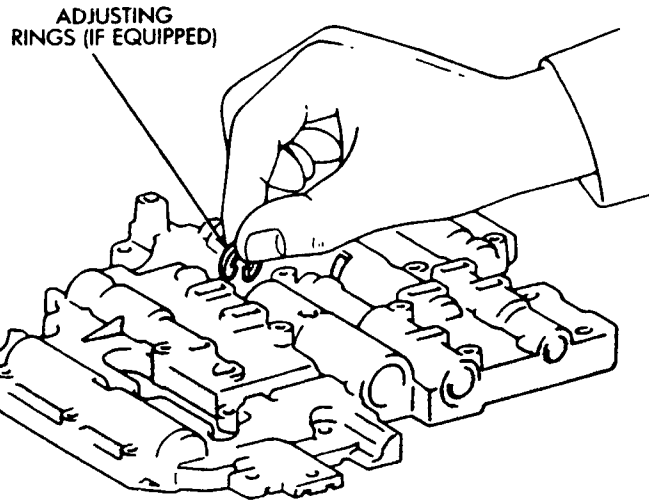

Fig. 17 Install Throttle Valve Adjusting Rings - If Equipped
(12) On models with adjusting rings, turn upper body over and install adjusting rings (Fig. 17). Be sure to install same number of rings as were removed.